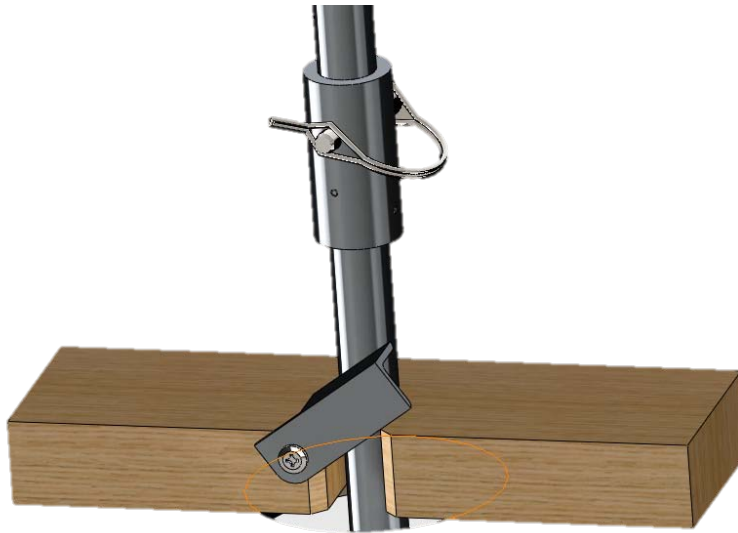

Figure 4: The extension support.
- 6.4.5.2 Slide the extension support (Figure 4) onto the stem just below the point the string will be broken and close its gate.